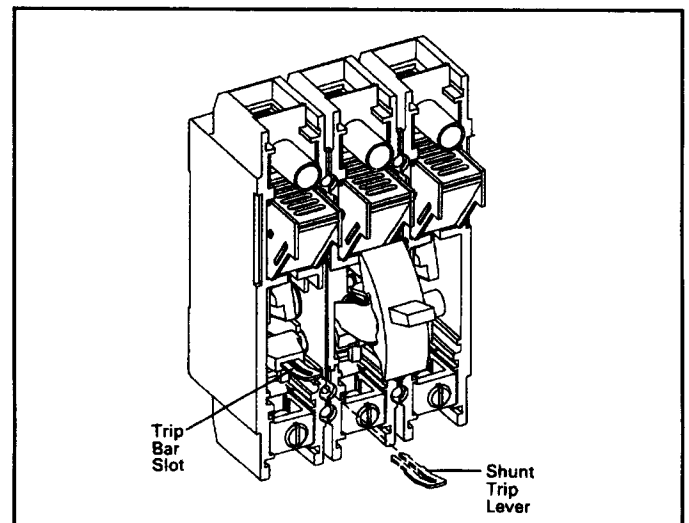

Fig. 2-4
- 2-6. Install shunt trip lever into slot in left pole trip bar. (See Fig. 2-4) Insert until shoulder of lever rests on trip bar. Lever should be oriented so that it angles toward line side of breaker (See Fig. 2-4 and 2-5).